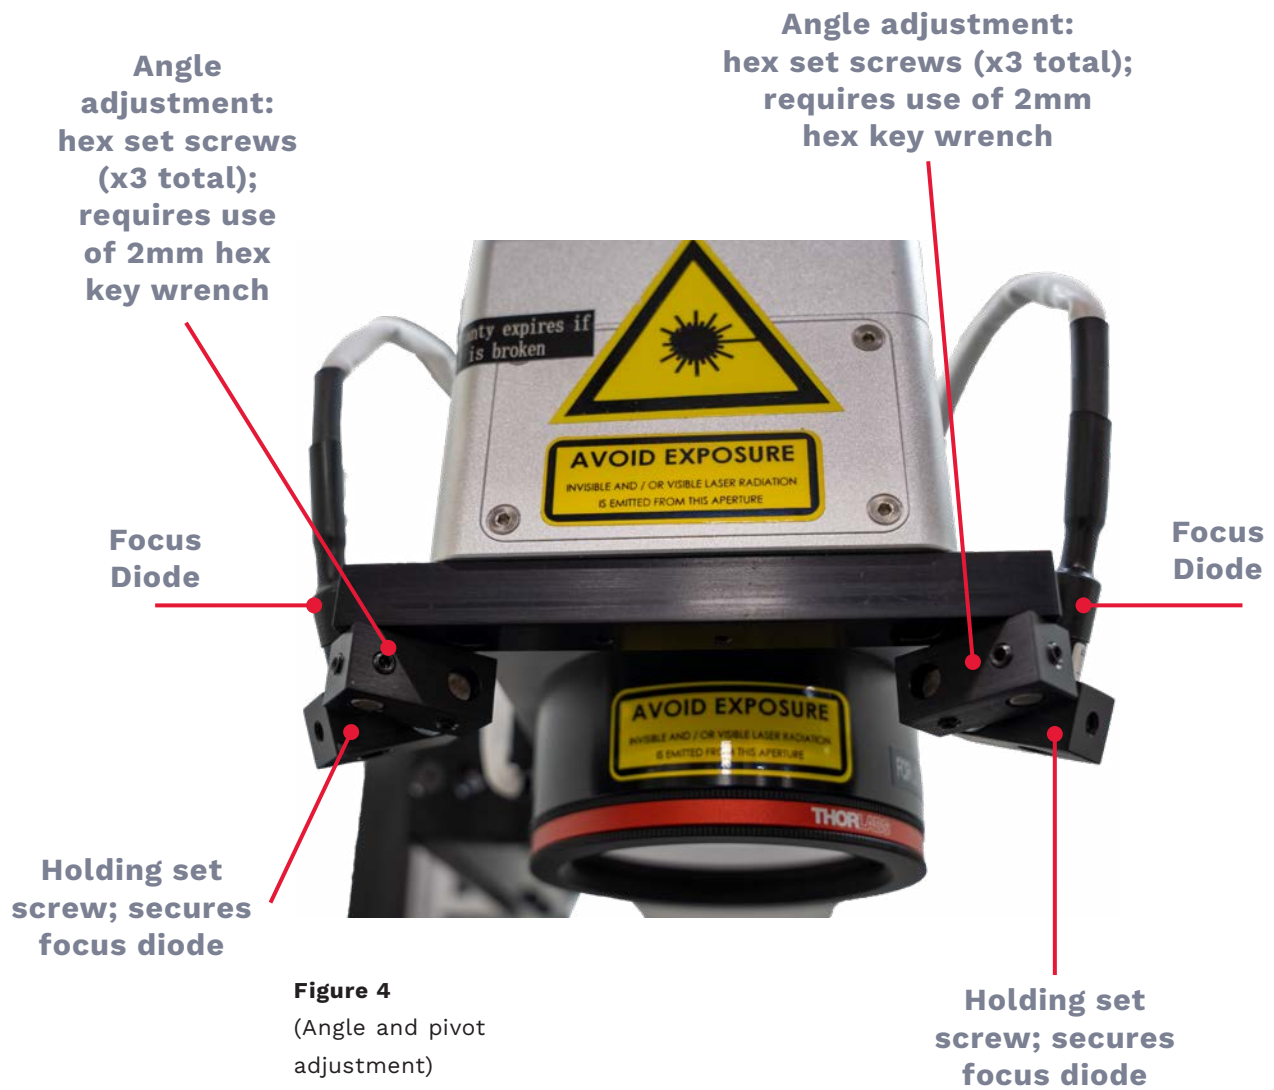

Figure 2
7. Move the lab stand up and down to find an ideal position; this is the location where the laser marks most accurately (reference **figure 2** and **figure 3**).